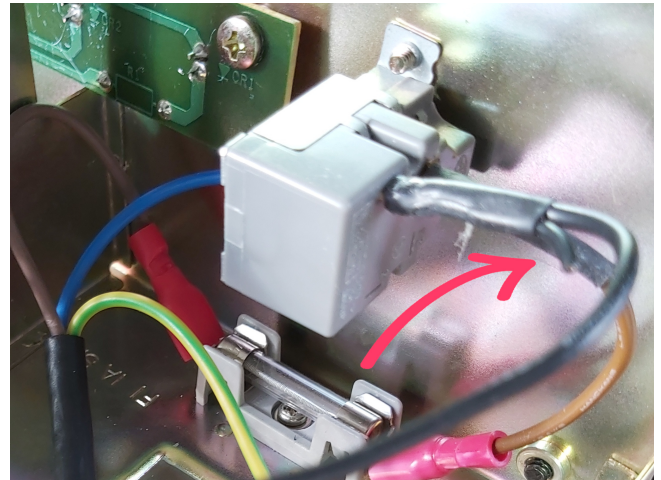
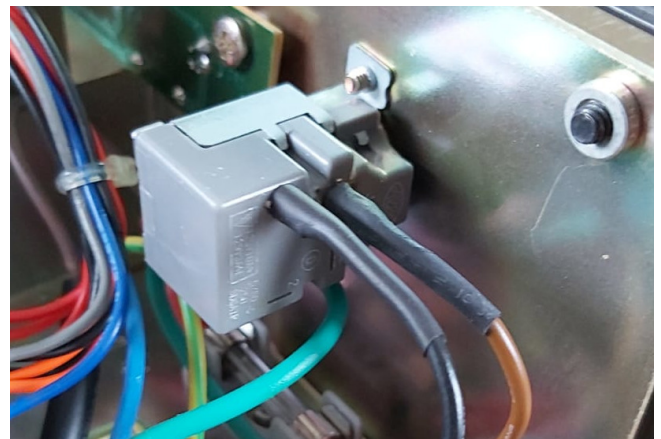

Figure 1: Remove the remaining length of the old fan power lead.
Figure 2: Cover the power terminal with new heat shrink tubing.
3. Remove the remaining part of the fan power lead attached to the power button by gently removing the old heat shrink tubing and cutting the lead as close as possible to the terminal (see Figure 1). Then re-cover the terminal and remaining lead with a suitable length of new heat shrink tubing (as shown in Figure 2).